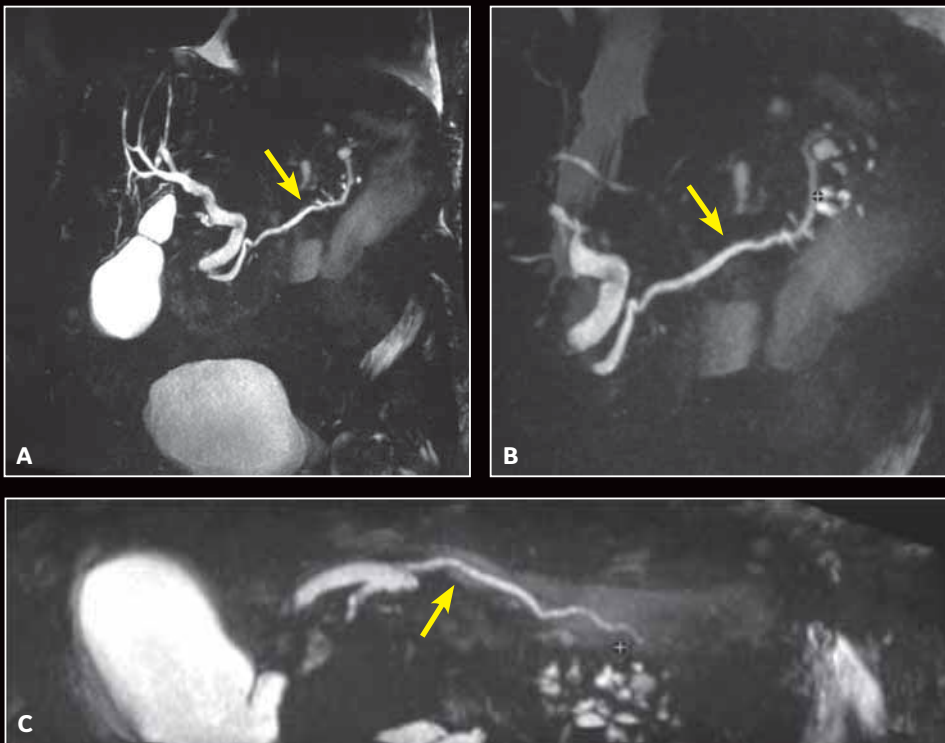

Figure 2. In the radiology report, patient was diagnosed with acute pancreatitis as demonstrated by the dilated anatomy (yellow arrows).
Figure 2. In the Axial plane reformatted from T2w HyperCube, the above described hyperintensities were displayed as two parallel round shaped images, configuration the "Owl's eye sign."
In the Axial plane images that were reformatted from the T2-weighted HyperCube, the above described hyperintensities were displayed as two parallel, round-shaped images, configuration of the “Owl’s eye sign” (Figure 2).
According to the radiology report, the patient suffers from acute pancreatitis as demonstrated by the dilated anatomy (Figure 2, arrows). Acute pancreatitis is an inflammation of the pancreas that develops quickly with the main symptom being abdominal pain. It usually settles in a few days but sometimes it becomes severe and very serious.
Figure 2. Comparison of diffusion techniques in the body. (A) Axial T2 PROPELLER (B) Standard EPI-DWI technique. (C) Using FOCUS DWI, there is an improvement in resolution compared to the standard EPI-DWI technique. (D) MUSE DWI further improves resolution and minimizes distortion. All scans were acquired with b800 and AIR Technology™.